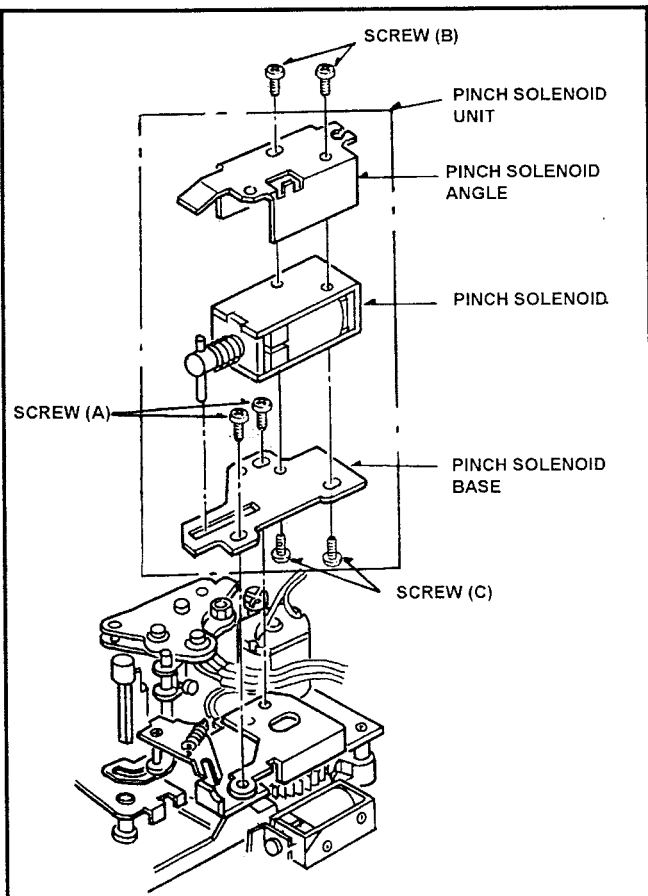

Fig. 6-9-1. Removal of Pinch Solenoid
6. Unscrew the 2 screws (A) and remove the Pinch Solenoid Unit as shown in Figure 6-9-1.
7. Unscrew the 2 screws (B) and remove the Pinch Solenoid Angle as shown in Figure 6-9-1.
8. Unscrew the 2 screws (C) and remove the Pinch Solenoid from the Pinch Solenoid Base.